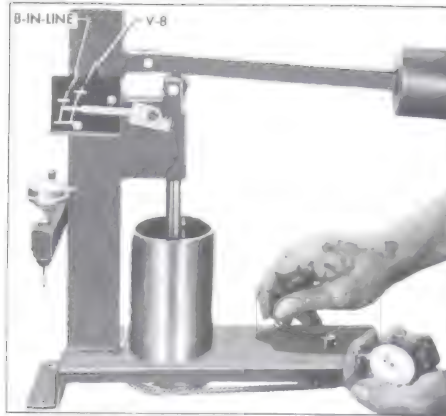

Figure 2-32—Checking Leakdown Rate
4. Lower the ram to rest in the lifter push rod seat, then lower the weight arm to rest on the roller or ram as shown in Figure 2-32.
6. Raise weight arm to allow the lifter plunger to come up to its retainer, then lower the arm to rest on the ram roller. As the pointer starts moving upward start rotating the fluid cup by turning the handle one revolution every two seconds. See Figure 2-32.
7. Use a stop watch to check the time required for the pointer to move from the lower to the upper mark on scale where marked "BUICK V-8." The cup must be rotated during this test. See Figure 2-32.